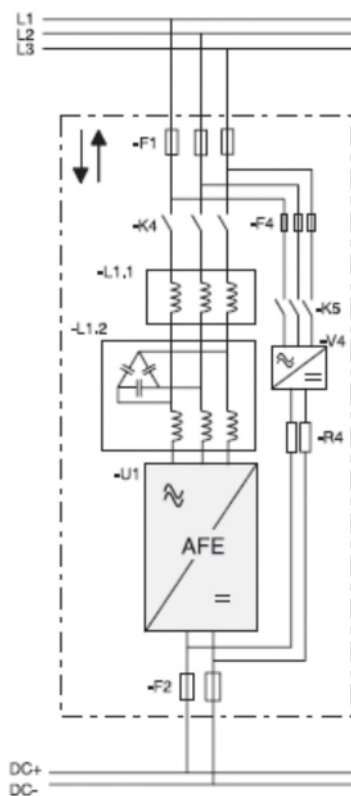

Figure 1, AFE connection
The AFE unit is utilized by using inverter hardware with special software. An external L(CL)-filter and charging circuit is needed. This unit is selected when low harmonics are required. The principle connection of AFE drive has been described in Figure 1.
1. Connect the unit according to the Figure 1.